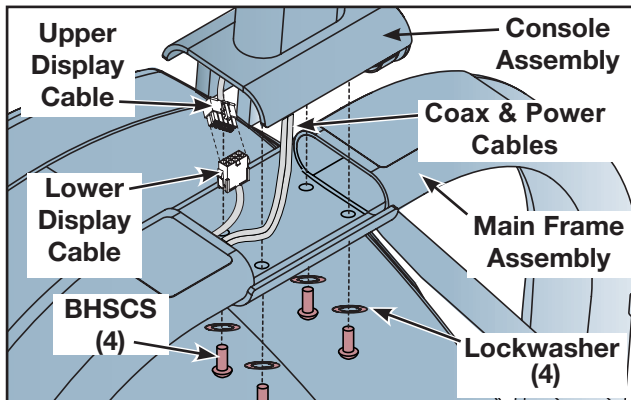

Figure 18
- A. Plug the upper display cable into the lower display cable in the main frame assembly. See Figure 18.